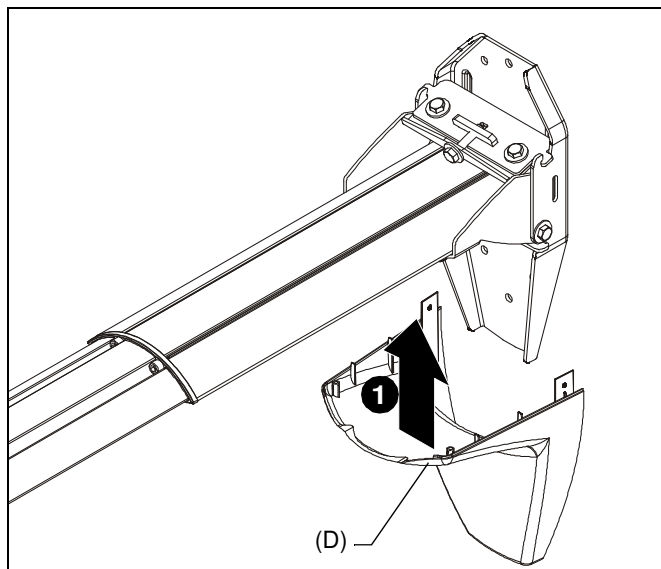

Figure 12
1. Raise lower cover (D) up to WM1XXS. (See Figure 12)